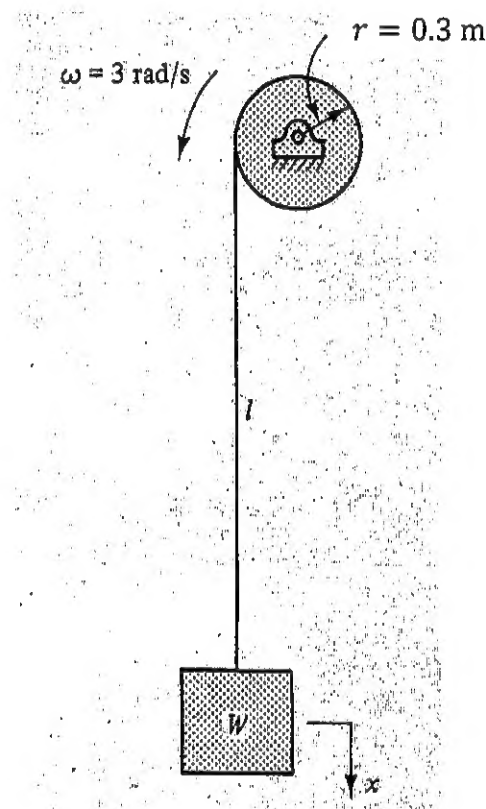

Figure Q4(a)
- (a) As shown in Figure Q4(a), an elevator weighing $W = 35.6$ kN is attached to a steel cable that is wrapped around a drum rotating with a constant angular velocity of 3 rad/s. The radius of the drum is 0.3 m. The cable has a cross-sectional area of $6.45 \times 10^{-4} \text{ m}^2$ and an effective modulus of elasticity of $E = 8.29 \times 10^{10} \text{ N/m}^2$. A malfunction in the motor drive system of the drum causes the drum to stop suddenly when the elevator is moving down and the length l of the cable is 15 m. Assuming the damping ratio of the cable is $\zeta = 0.05$. Determine the maximum stress σ_{max} in the cable.